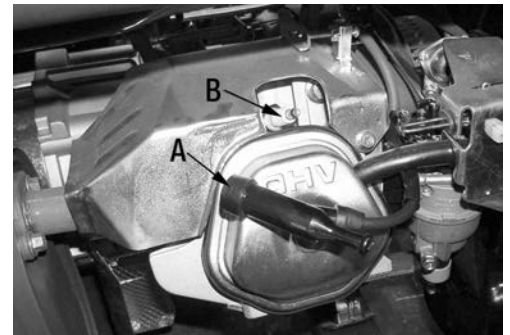

Figure 16
- 1) Dismantle the spark plug cap (A) Fig.16 by pulling it off the spark plug (B). Using the supplied spark plug wrench, undo the spark plug by turning it counterclockwise.